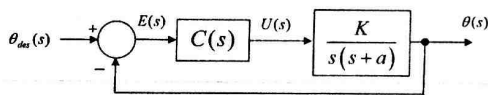

Fig. 5.1: Closed-loop position control system
- (b) A classical control scheme for a general DC motor based positioning system is shown in Fig. 5.1.